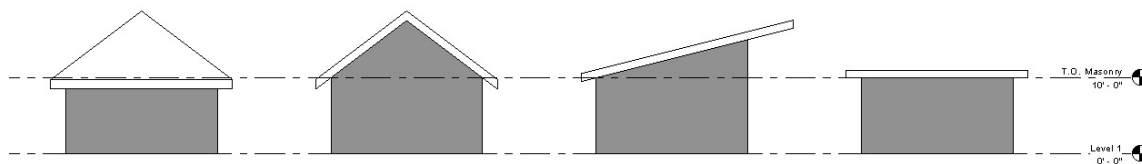

FIGURE 7-1.13 South elevation – flat roof
54. Switch to the South elevation view (Figure 7-1.13).